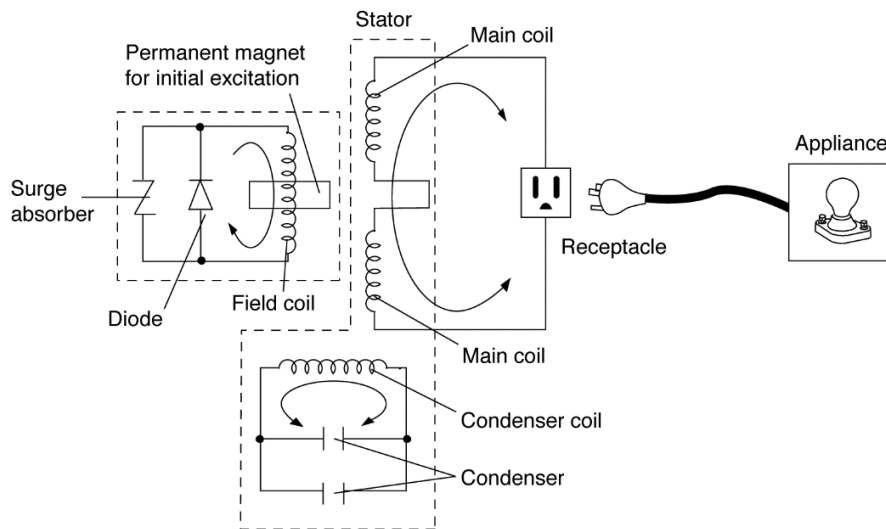

Figure 2-3: Generation of No-Load Voltage
- (1) Generation of No-Load Voltage (refer to Figure 2-3)